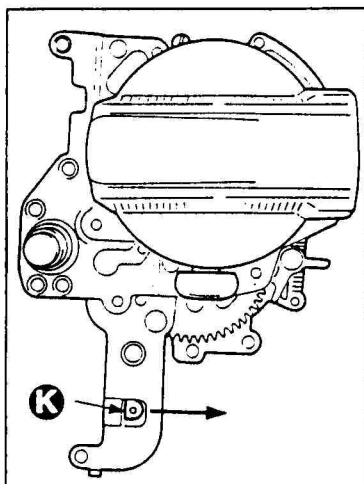

Fig. 7
1. Install the crank knob, and check wind-up operation. (See Fig. 7)